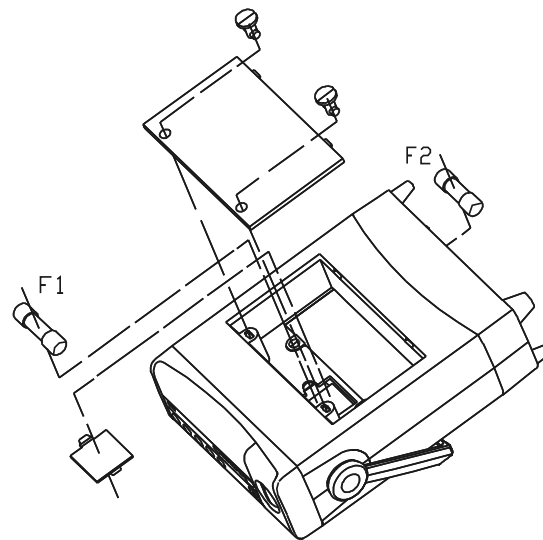

Figure 17
2. Replace fuse (See Figure 17)